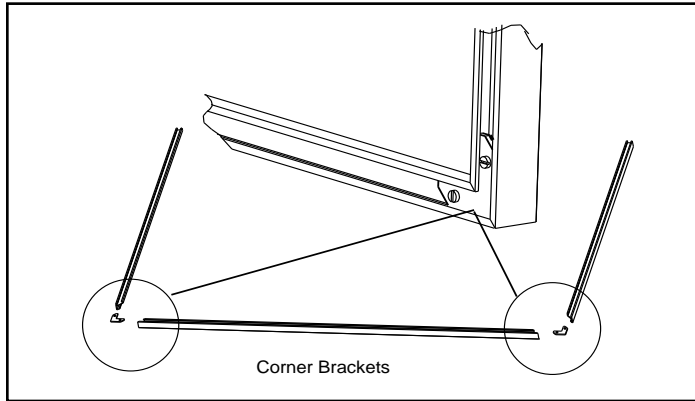

Figure 21.1
3. Assemble trim as shown in **Figure 21.1**.